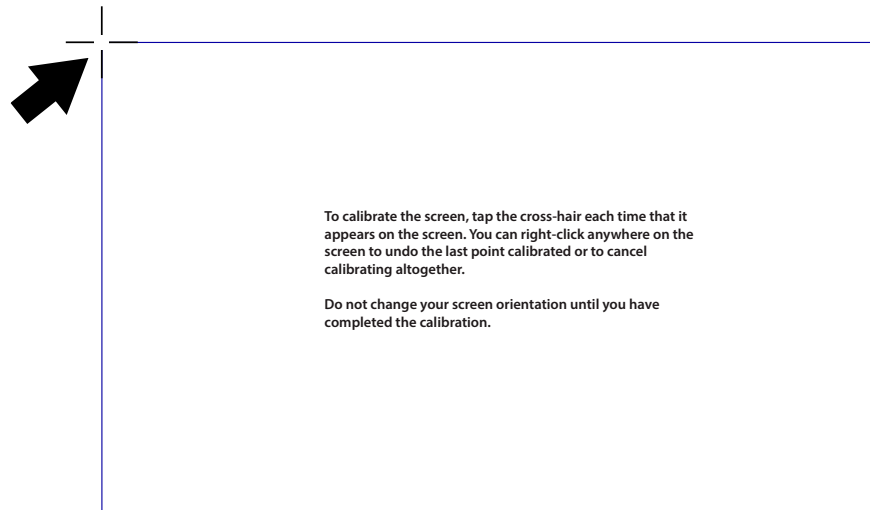

Figure 16-4 Calibrating the Touch Screen
The Calibration screen is displayed (Figure 16-4).
4. Using the stylus, follow the screen prompts and tap on the center of the cross-hairs as they appear at each corner on the screen (Figure 16-4).